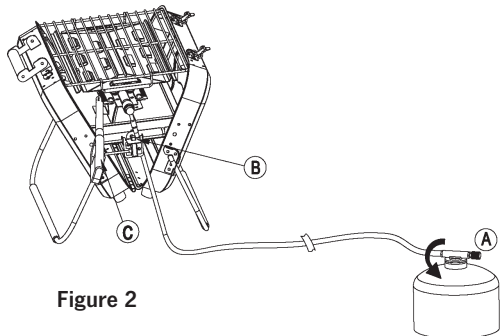

Figure 2
1. Piezoelectric ignition (Figure 2, Page 13)
As shown in **Figure 2-A**, turn the control knob ⑪ counterclockwise for about 1/3 turn (the arrow points to "+") turn it down properly when the cylinder is full) to turn on the gas.
As shown in **Figure 2-B**, repeatedly press the button ⑨ until the gas grill is ignited.
Place the ignition gun head close to the burner (**Figure 2-C**), rotate the control knob counterclockwise (the arrow points to "+"), gradually turn on the gas, and press the ignition gun switch (**Figure 2-C**).